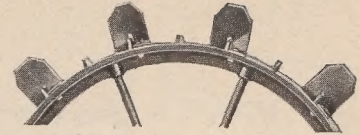

**Fig. 205**
**Disc attachment, Fig. 205.** For use in digging early white potatoes, also
**To crush the vines**, and keep them in the best shape for digging, we use the large roller, 14 x 8, with concave face. Adjusts for height, and forward and back—a lever, convenient to the seat, raises the roller clear of rocks, etc. For heavy vines, see Fig. 205, page 3.